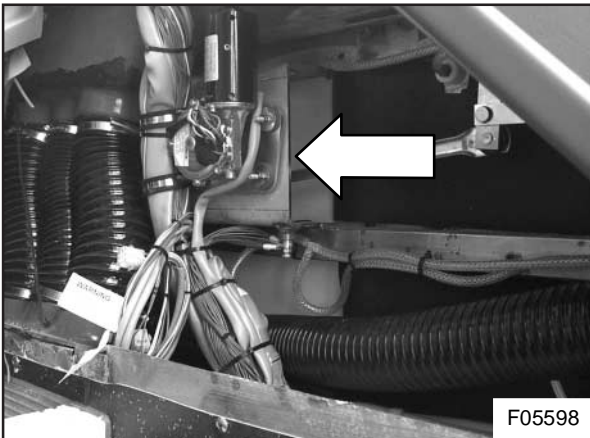
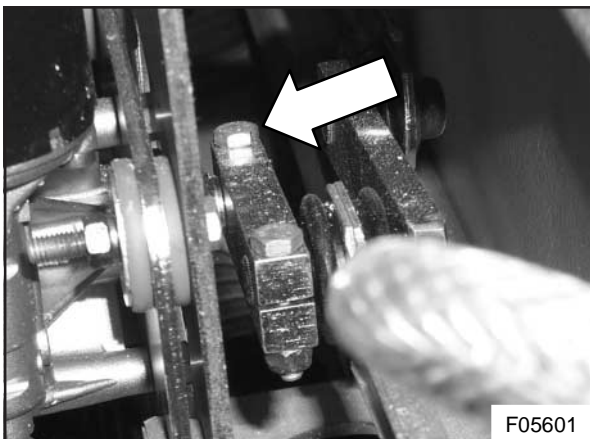

Figure 3 : Bell crank and clamp location
Figure 6 : Motor shaft clamp bolt
- 4) Locate the bell crank and clamp behind the wiper motor mounting bracket (see Figures 3 and 9). With the wipers in the parking position and the wiper motor switched off, the bell crank and bracket are in the horizontal position (refer also to Figure 6).
- 7) With a 10 mm box wrench and a socket and ratchet undo the bolt and nut securing the clamp to the wiper motor shaft (see Figure 6).